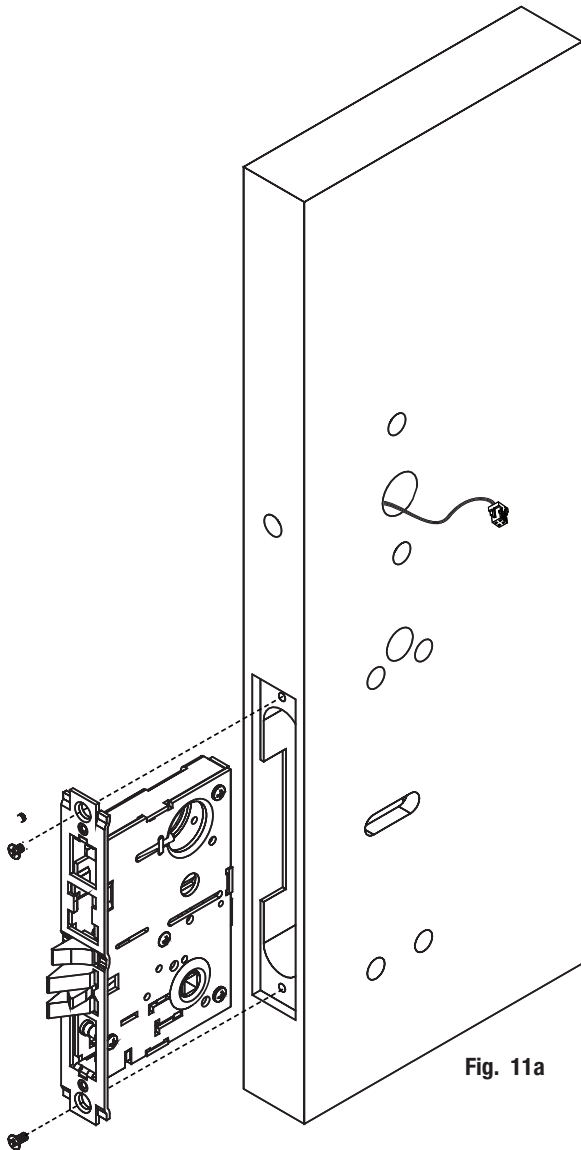

Fig. 11a
- b. Feed trim wire harness through wire harness hole (Fig. 11a).